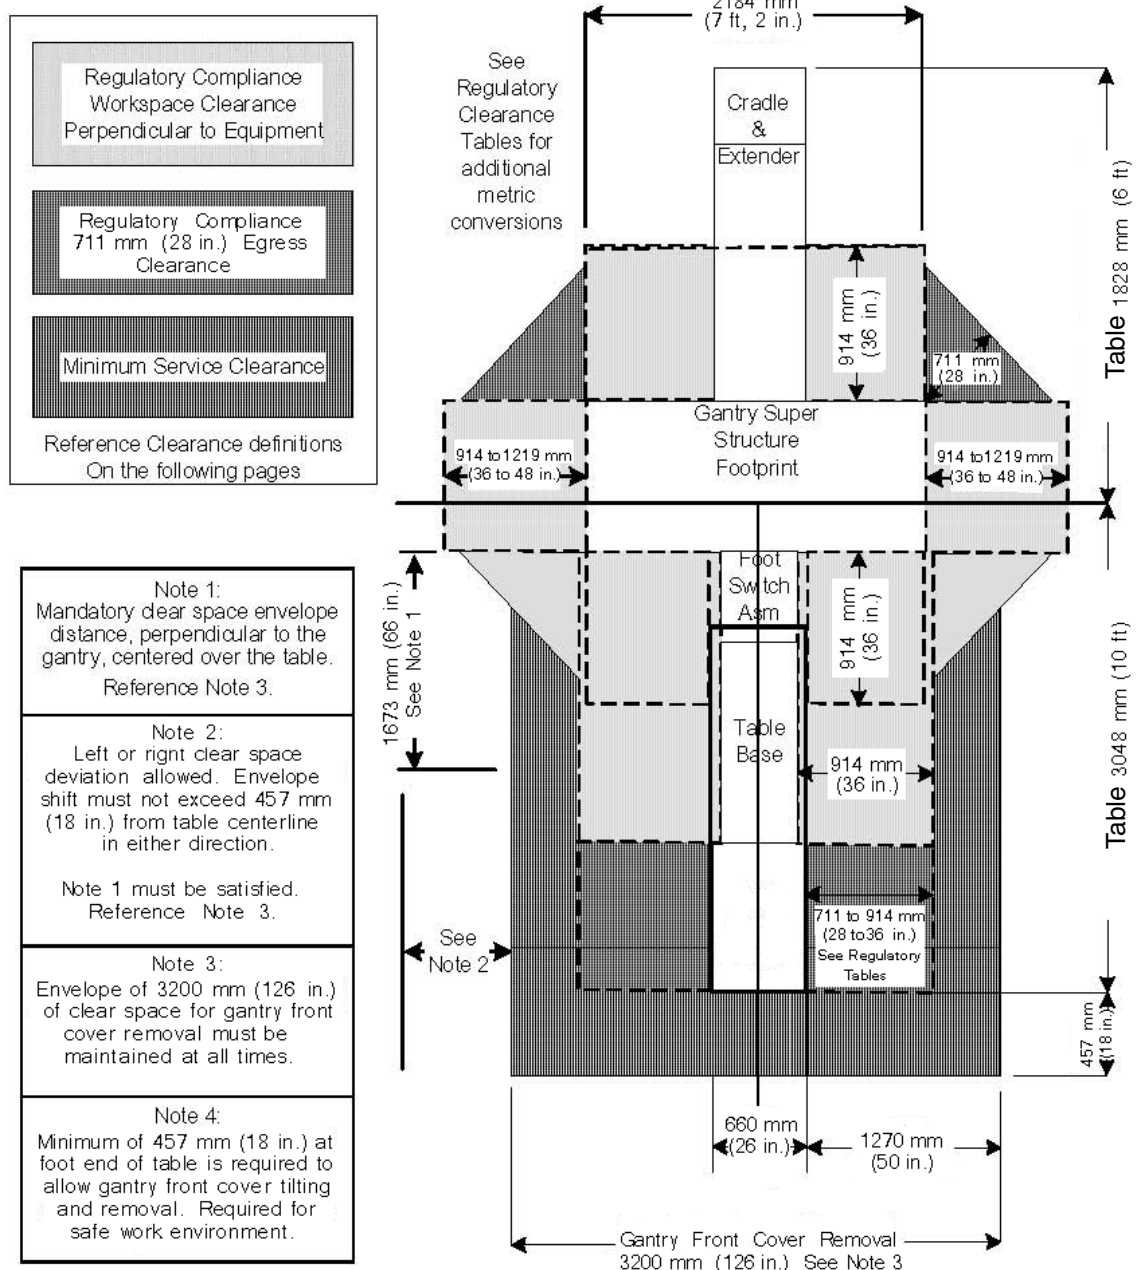

Figure 4-5 Minimum Service Clearance
- Gantry front cover removal requires the use of the Tilting Cover Dollies. These dollies allow the Service Engineer to separate the cover from the gantry, tilt the cover 90 degrees, roll the cover to the foot end of the table, and then tilt the cover an additional 90 degrees, such that the front cover is now upside down relative to the normal system-mounted condition. Figure 4-5 illustrates the minimum clear space required to achieve this operation of 3200 mm (126 in.). The gantry front cover must be removed to a position that satisfies the minimum regulatory clearances.
- The gantry rear cover with service dollies installed, requires a width of 2388 mm (94 in.) and a depth of 584 mm (23 in.) of clearance for removal as shown in Figure 4-5. Sufficient space must be calculated to move the cover either straight back or to one side of the table to satisfy the minimum service clearance shown in Figure 4-5. This means the rear cover cannot violate the workspace on the rear, or on either side of the gantry.
The operator console is not a hazard for exposed live parts. However, a minimum working space depth of 1219 mm (48 in.) and full width of the operator console must be maintained at all times for service activity. Additionally, sufficient space must be provided for repositioning the operator console, and side clearance for rear service access. See Figure 4-5 for a typical control room layout.